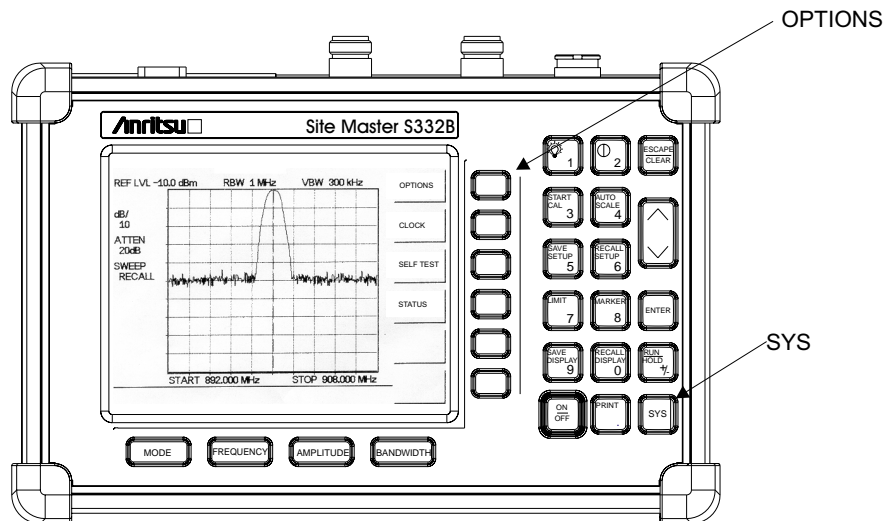

Figure 3-12. SYS Key and OPTIONS Soft Key
Step 3. Press the **SYS** key and the **OPTIONS** soft key (Figure 3-12).